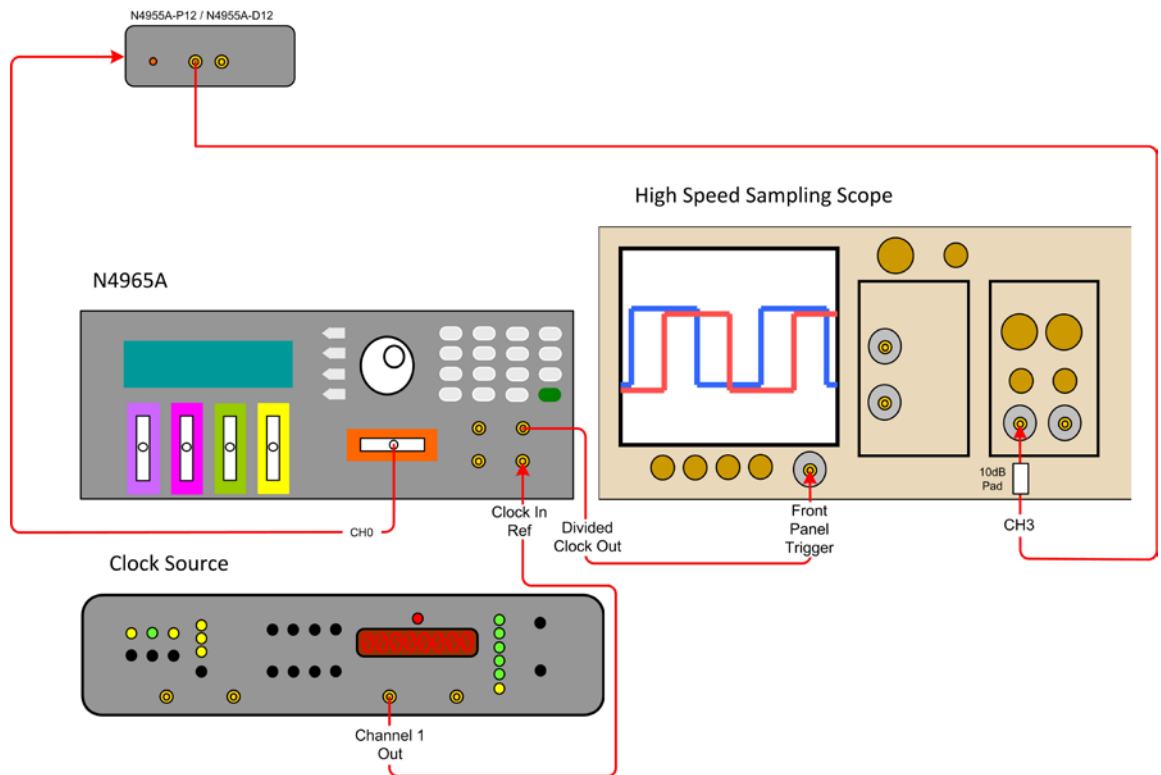

Figure 1. PRBS generator setup
5. Connect the N4965A to a clock source and the N4955A-P12/N4955A-D12 (s) to a high speed sampling scope as shown in Figure 1. Tighten coax connectors to 8 lb-in (90 N-cm) and use 50 Ω terminations on all unused ports.